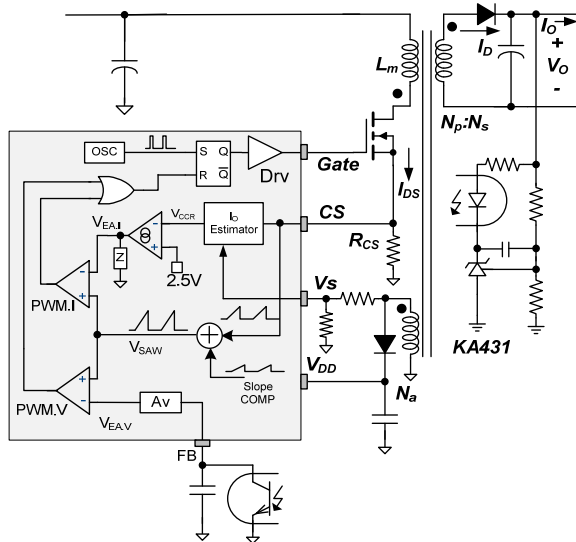
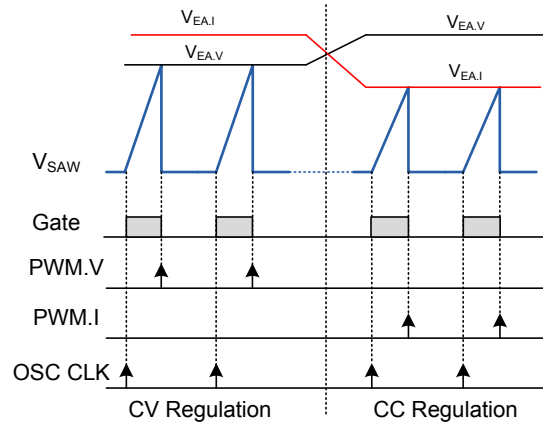

Figure 24. Internal PWM Control Circuit
Figure 25.PWM Operation for CC and CV
Figure 24 shows the internal PWM control circuit. The Constant Voltage (CV) regulation is implemented in the same way as in a conventional isolated power supply, where the output voltage is sensed using a voltage divider and compared with the internal 2.5 V reference of shut regulator (KA431) to generate a compensation signal. The compensation signal is transferred to the primary side using an opto-coupler and scaled down through an attenuator, A_v , generating $V_{EA,V}$ signal. Then, the error signal $V_{EA,V}$ is applied to the PWM comparator (PWM.V) to determine the duty cycle.
The two error signals, $V_{EA,I}$ and $V_{EA,V}$, are compared with an internal sawtooth waveform (V_{SAW}) by PWM comparators PWM.I and PWM.V, respectively, to determine the duty cycle. Figure 24 shows the outputs of two comparators (PWM.I and PWM.V) combined with OR gate and used as a reset signal of flip-flop to determine the MOSFET turn-off instant. Of $V_{EA,V}$ and $V_{EA,I}$, the lower signal determines the duty cycle, as shown in Figure 25. During CV regulation, $V_{EA,V}$ determines the duty cycle while $V_{EA,I}$ is saturated to HIGH. During CC regulation mode, $V_{EA,I}$ determines the duty cycle while $V_{EA,V}$ is saturated to HIGH.